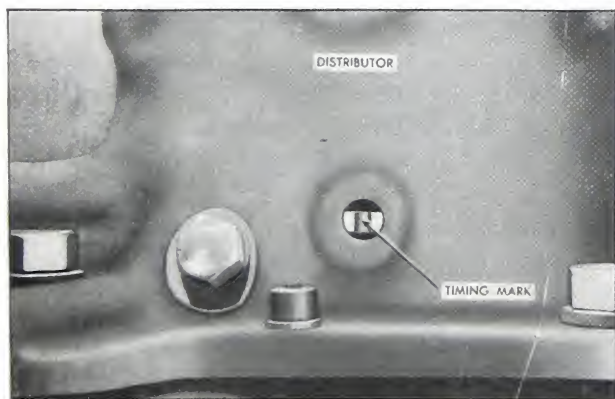

Fig. 5-161. Distributor collar timing mark
2. Set the timing mark on the distributor disc drive collar to line up with the inspection hole. (Fig. 5-161).